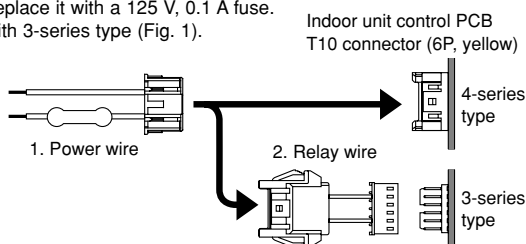

Fig. 1
*2 Use with 3-series type (Fig. 1).